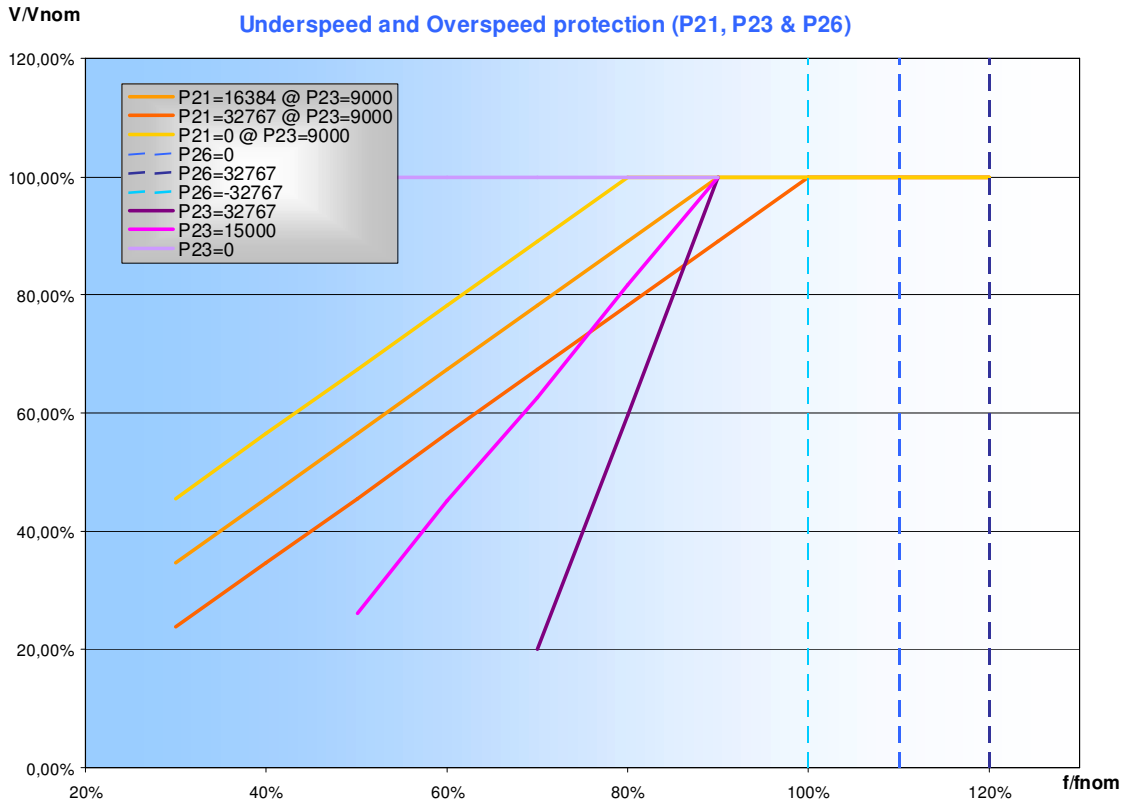

fig. 8: Parameters 21, 23 and 26
For speeds lower than a programmable threshold, the machine voltage is no longer constant, but is regulated proportionately with the frequency at a ratio, which is also programmable, as shown in figure 8. The intervention threshold depends upon:
Once the underspeed protection has intervened, the frequency is proportionately reduced, as indicated in figure 8. **Parameter P[23]** sets the slope of the voltage/frequency curve; the default value is 9000. An increase in the value of P[23] involves a greater reduction of the voltage as a function of the reduction in frequency. A decrease in the value of P[23] involves a lower reduction of the voltage until the limit of P[23] =0, which means that there is no reduction in voltage.
**Parameter P[26]** sets the overspeed alarm intervention threshold; if it is set on 0, the signal cuts in at 55 Hz (if the 50/60 jumper and 50/60 setting in the Configuration Menu are absent) or at 66Hz (if the 50/60 jumper is present and enabled or the 50/60 flag in the Configuration Menu is activated). Values between 65535 (-1) and 32768 (-32767) lower the threshold proportionately to 50 Hz and 60 Hz, respectively; values between 0 and 32767 raise the threshold proportionately, respectively to 60 Hz and 72 Hz; refer to the broken lines in figure 8.